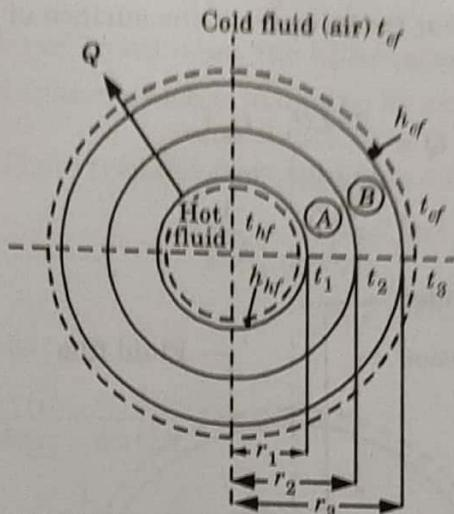

Fig. 1.27.1. Steady state conduction through a composite sphere.
1. Considering Fig. 1.27.1 as cross-section of a composite sphere, the heat flow equation can written as follows